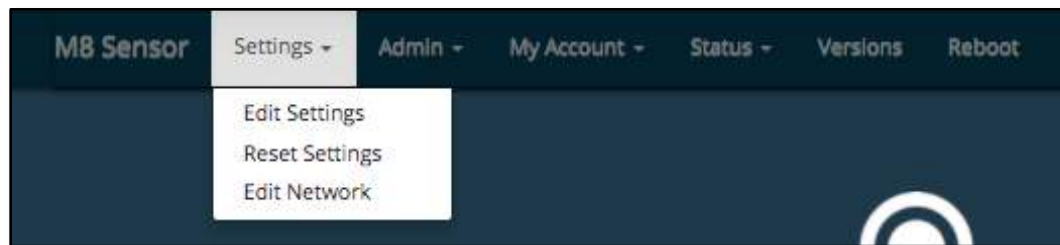

Figure 28. Web Server: Settings Tab's Menu Items
The Settings tab offers three items (Figure 28) that provide the essential mechanisms for controlling the sensor's configuration file settings:
1. Select the Settings tab's *Edit Settings* item (Figure 28) to open the *M8 Settings Edit* page (Figure 29). This page enables the user to edit specific values in the sensor's configuration file, as discussed in the following subsections. A collapsed view of the Settings tab is shown in Figure 29 (top), which expands into sections for the *Ring settings* (right) and *GPS settings* (bottom).